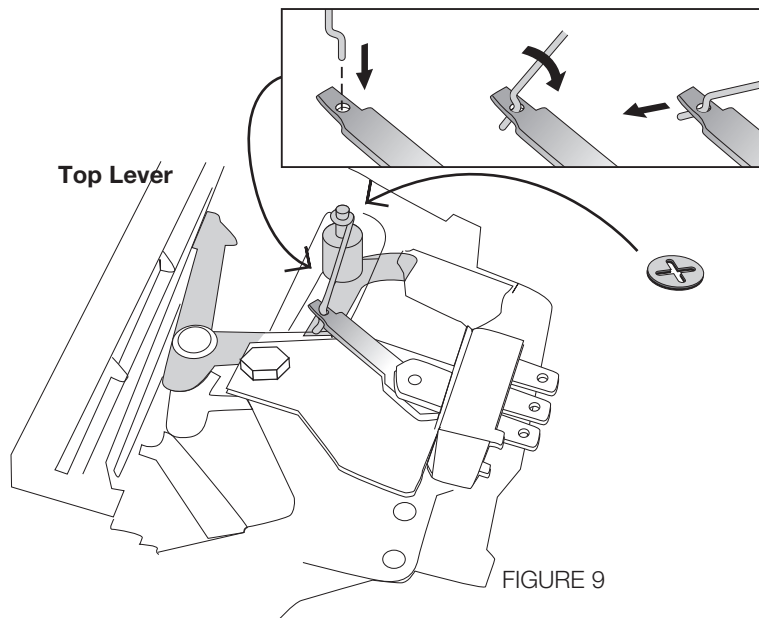

FIGURE 9
3) Hook the wire through the hole in the blower switch lever, and then route over the control post. Use the push nut to hold the connecting wire (see figure 9).